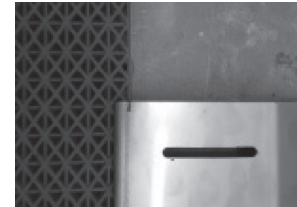

Figure 1
- Offset the ramp on the tile to have a visual alignment between the edge of the tile and the notch (fig.1),